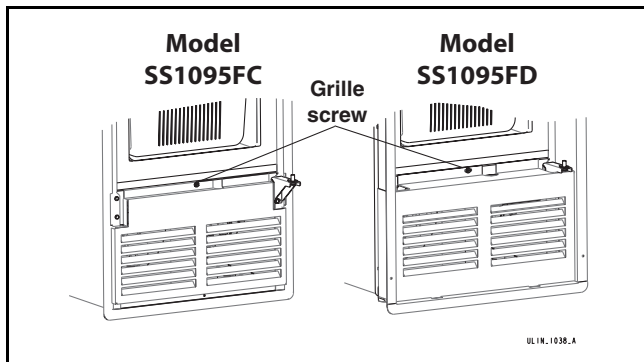

Figure 2
Proper air flow is required for your unit to operate at its highest efficiently. A grille, located in the base of the unit (Figure 2), must not be blocked at any time, or your unit will not perform as expected.
The power switch is located behind the front grille. A small opening in the top of the grille (Figure 2) is provided to access the switch.
1. Remove the front grille (one screw) (Figure 2).